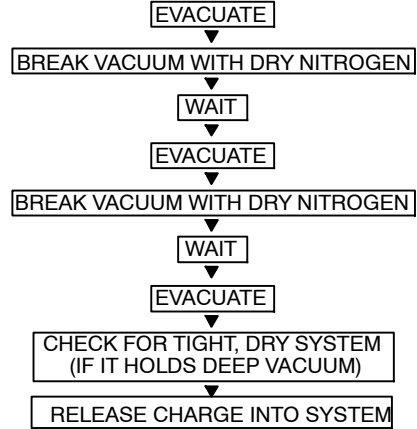

Fig. 21 – Triple Evacuation Method
Refer to Fig. 21 and proceed as follows:
5. Repeat this procedure as indicated in Fig. 21. The system is then free of any contaminants and water vapor.